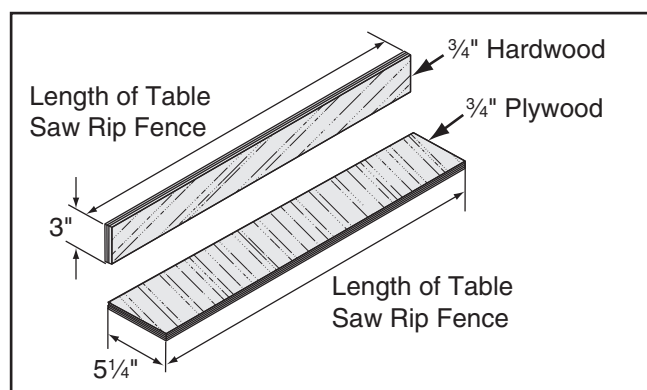

Figure 84. Auxiliary fence dimensions.
1. Cut a piece of $\frac{3}{4}$ " thick plywood $5\frac{1}{4}$ " wide and as long as your table saw fence; cut a piece of $\frac{3}{4}$ " thick hardwood 3" wide and as long as your table saw fence, as shown in **Figure 84**.